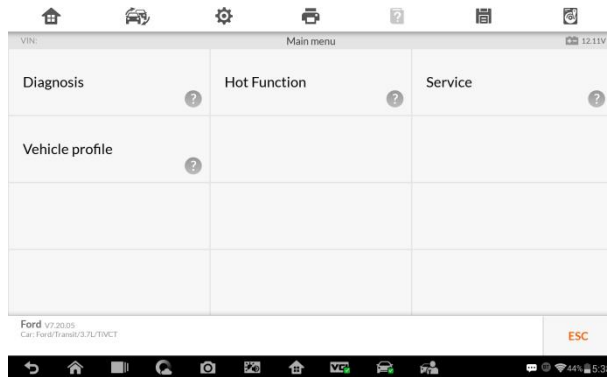

Figure 4-3 Sample Vehicle Diagnostics Screen
5. Tap **Done**. The vehicle will be identified in a few seconds, and once the matching is successful, the system will guide you to the Vehicle Diagnostics screen directly (Figure 4-3).